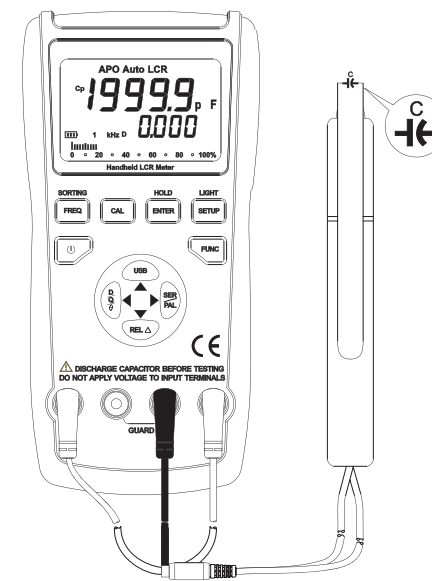

Figure 11
- 3) Insert capacitance into testing port or connect corresponding fittings to measured capacitance (shown in Figure 11).